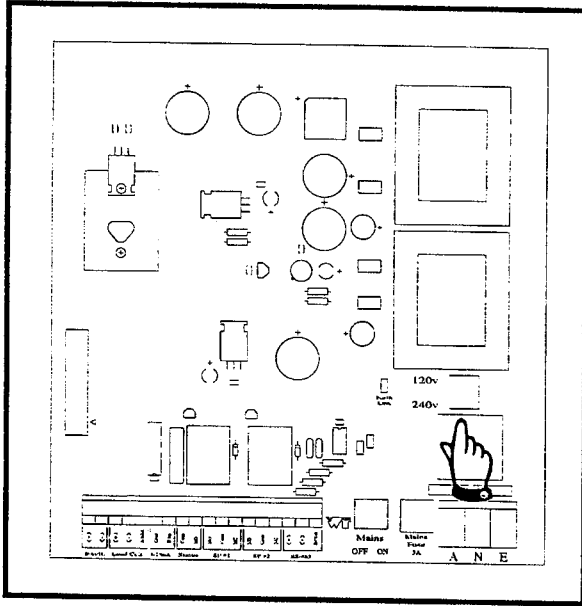

Figure 2-5
- Verify local mains supply voltage (i.e. 120Vac or 240Vac) and set voltage selector switch to reflect this voltage. See Figure 2-5 opposite.
- Connect power supply cable to the terminal block, TB1, in accordance with the legends located immediately below. Terminal block TB1 is located directly below the mains voltage selector switch shown in Figure 2-5.